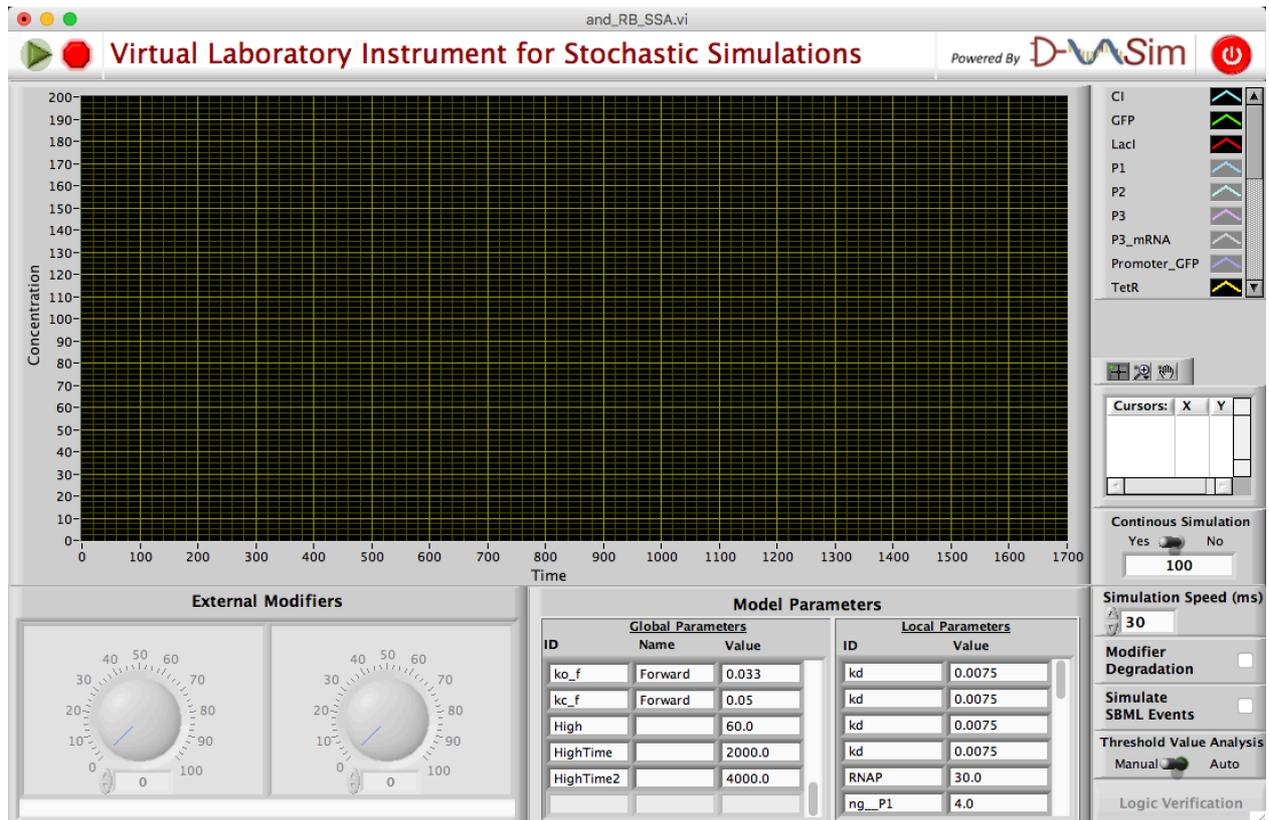

Figure 4. Virtual Instrument specifically for a genetic AND gate model.
Once the components of SBML model are analyzed, a virtual environment for the interactive simulation can be generated simply by clicking on any of the two options, **Generate SSA VI** or **Generate ODE VI** shown at the top right corner of a tool. Now click **Generate SSA VI** button to generate a virtual instrument (VI) for stochastic simulations of a genetic AND gate model. This will bring up a virtual instrument shown in Figure 4.
The virtual instrument (shown in Figure 4) looks similar to a physical instrument, which can be used to interact with the model by tuning the input concentrations with the control knobs and observing the effects graphically.